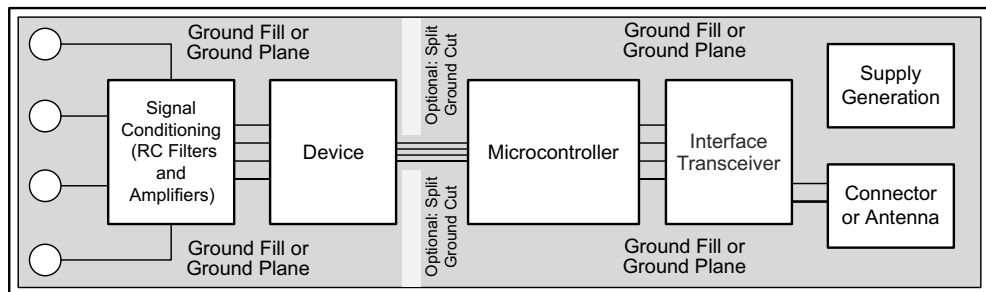

Figure 9-12. System Component Placement
Employ best design practices when laying out a printed circuit board (PCB) for both analog and digital components. For optimal performance, separate the analog components [such as ADCs, amplifiers, references, digital-to-analog converters (DACs), and analog MUXs] from digital components [such as microcontrollers, complex programmable logic devices (CPLDs), field-programmable gate arrays (FPGAs), radio frequency (RF) transceivers, universal serial bus (USB) transceivers, and switching regulators]. Figure 9-12 shows an example of good component placement. Although Figure 9-12 provides a good example of component placement, the best placement for each application is unique to the geometries, components, and PCB fabrication capabilities employed. That is, there is no single layout that is perfect for every design and careful consideration must always be used when designing with any analog component.